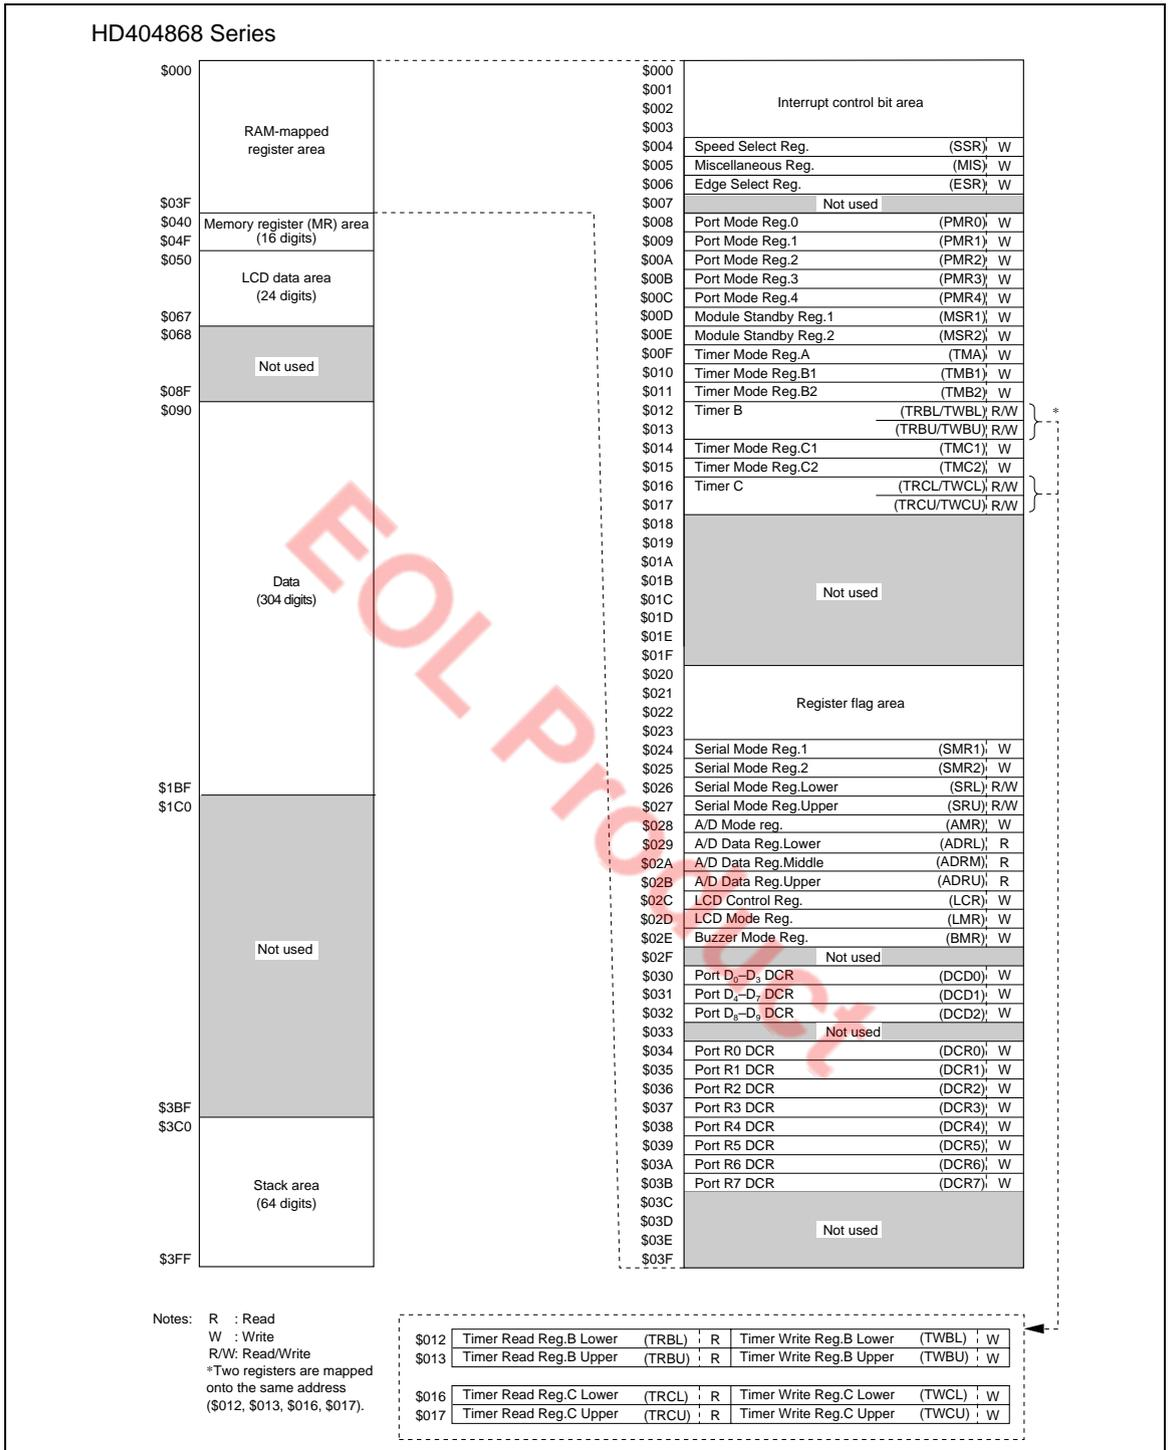

Figure 2 RAM Memory Map (cont)
This area comprises mode registers and data registers for external interrupts, the serial interface, timers, LCD, A/D converter, etc., and I/O pin data control registers. Its configuration is shown in figures 2 and 5. These registers are of three kinds: write-only (W), read-only (R), and read/write (R/W). The SEM/SEMD and REM/REMD instructions can be used on the LCD control register (LCR: \$02C) and the third bit of buzzer mode register (BMR3: \$02E, 3), but RAM bit manipulation instructions cannot be used on the other registers.